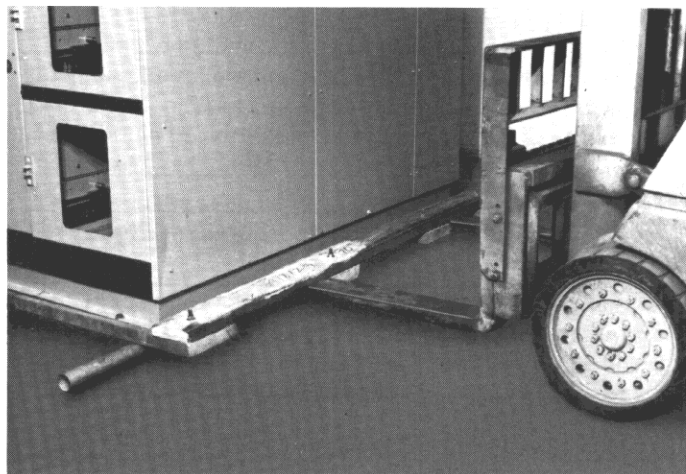

Fig. 2-7. Placement of rollers under shipping skid
5. Carefully lower the gear until it rests on the roller as shown in Fig. 2-7.
7. Carefully lower the gear until it rests on the rollers (Fig. 2-7).